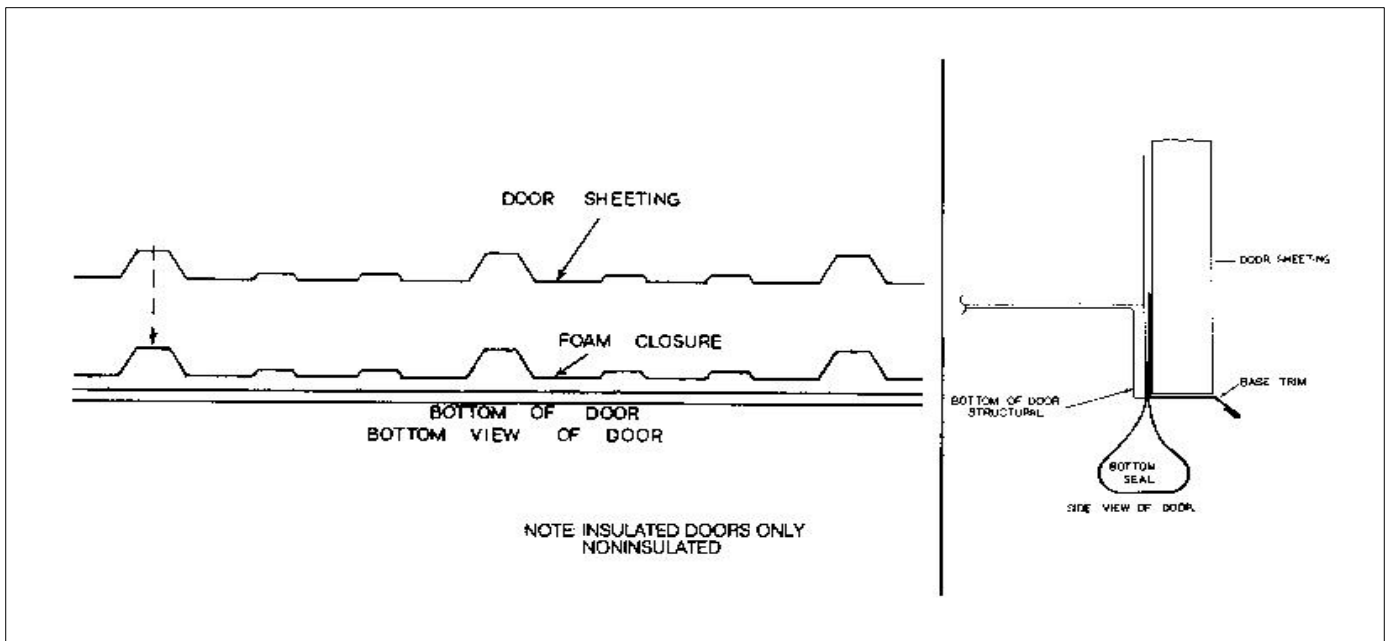

Figure 88 Closing off bottom of sheeting
2) Center and attach rubber to bottom of door, being careful not to collapse more than 2". Be sure to follow contour of floor. Pop rivets are all that is necessary because sheeting will sandwich seal to door and its fastener should go through seal. This will also allow for replacement in the future. **Do Not** cut off extra seal at each end at this time. This will be folded over later to seal ends of door. **SEE Figure 88, Page 48.**
The door sheeting trim is basically up to the individual. Some like to keep it simple and some like to dress the door up. We recommend that all sharp edges be trimmed off; and if door is not insulated, a closure or bottom sheeting cap be installed on bottom of door. If this is not done, dirt and snow can blow in. **SEE Figure 88 Page 48.**